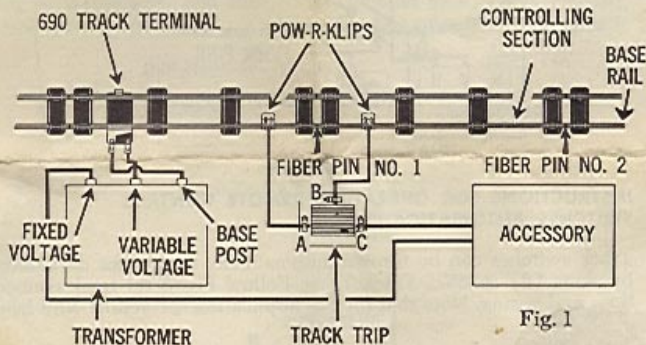
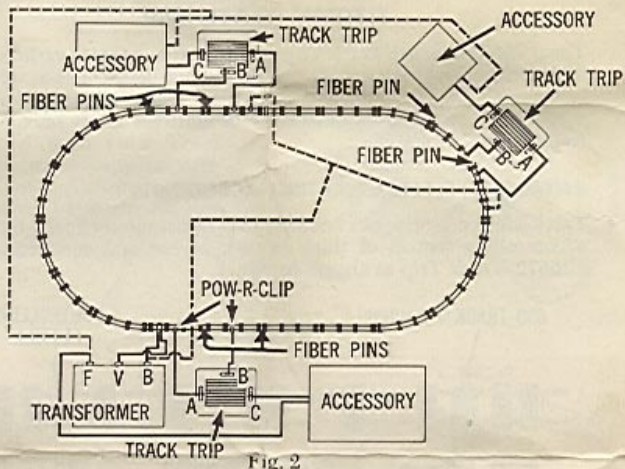

Fig. 1
Fig. 2
Trackside accessories can be made to operate automatically by using a controlling section of track in your layout and connecting (1) #26672 Track Trip as shown in Fig. 1.
The controlling section is a section of track in which one rail of track is insulated from the rest of the track by the use of fiber track pins at each end of the section. These fiber pins should be installed in the rail which is connected to the base post on the transformer. See Fig. 1.
Using Pow-R-Klips at the base rail, connect a lead wire from track trip terminal A to the Pow-R-Klip at the left of Fiber Pin #1. Connect terminal B to the Pow-R-Klip between Fiber Pins #1 and #2. Connect terminal C to the accessory. Continue to follow Fig. 1 for the rest of the connections.
If your layout is to contain more than one controlling section, track trip and accessory, in each instance the hook-up will be the same as in Fig. 1 except that a lead or leads will have to be added to carry current from the transformer base terminal to the base rail following each insulated section, plus connections from the transformer fixed voltage terminal to accessories. See Fig. 2.